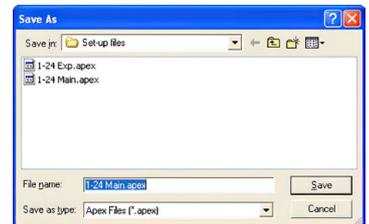

Fig 15
2. Choose a location/name and click 'Save' [Fig. 15].